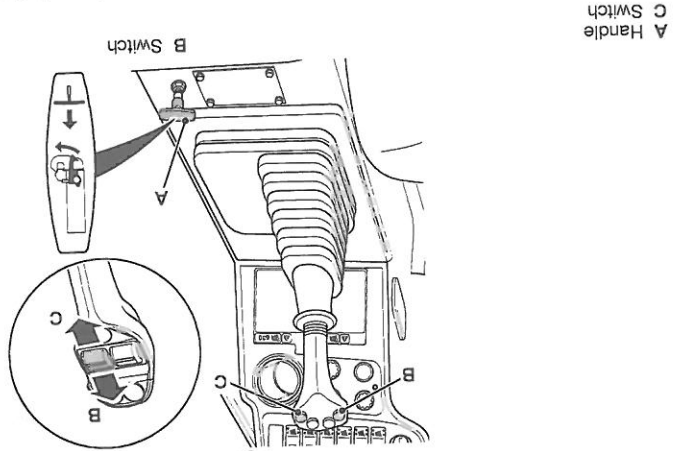

Figure 128.
- 5. Operate the switch to raise the hitch, this will remove the load on locking lever. Refer to Figure 128.
- 5.3. Operate the switch to depend on the attachment installed and the function required. Refer to Figure 128.